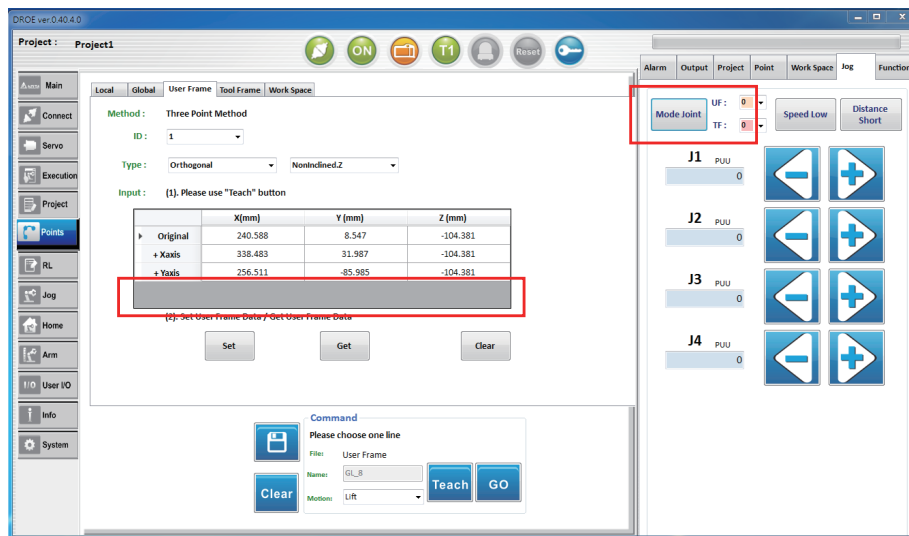

Fig.33 User Frame Page (User Frame)
**10. User Frame (user coordinates screen), as shown in Fig.33:**